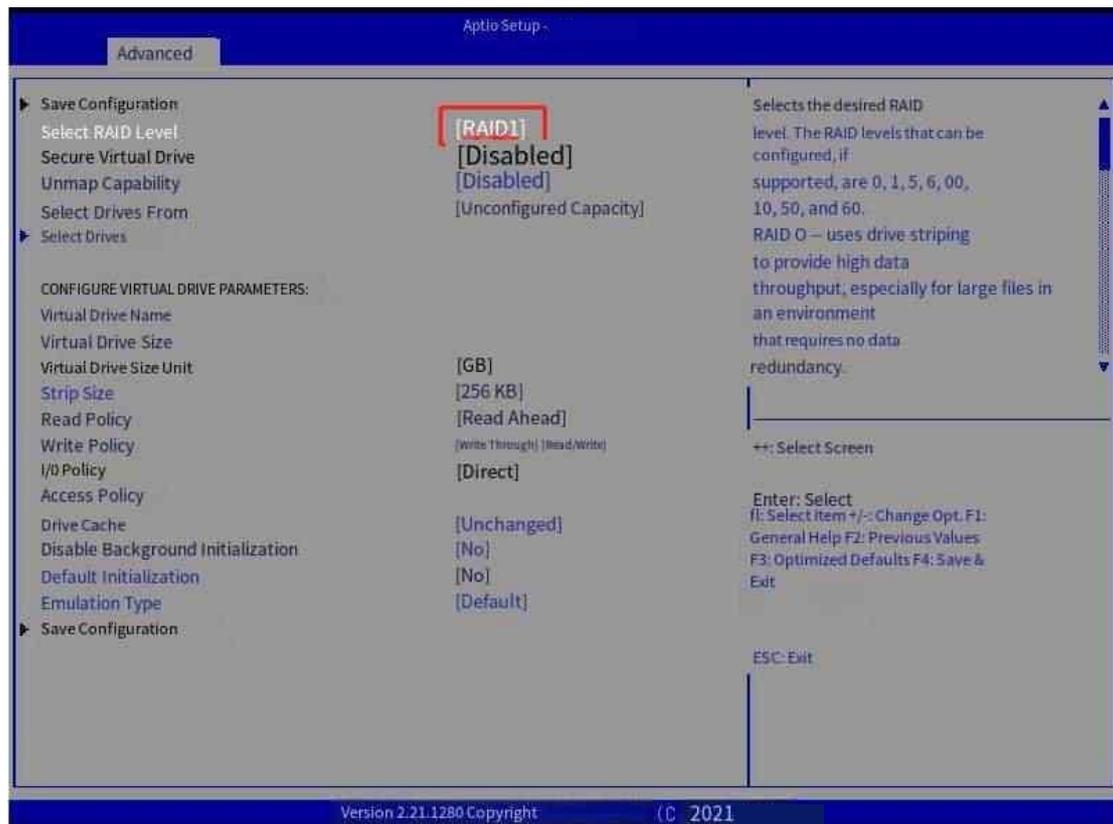

Figure 7-12 Select a RAID level screen
Step 2: On the RAID configuration screen, Select a RAID Level and use ↑ and ↓ to select Select RAID Level and press Enter. On the displayed list, select RAID 1 and press Enter (Figure 7-12).